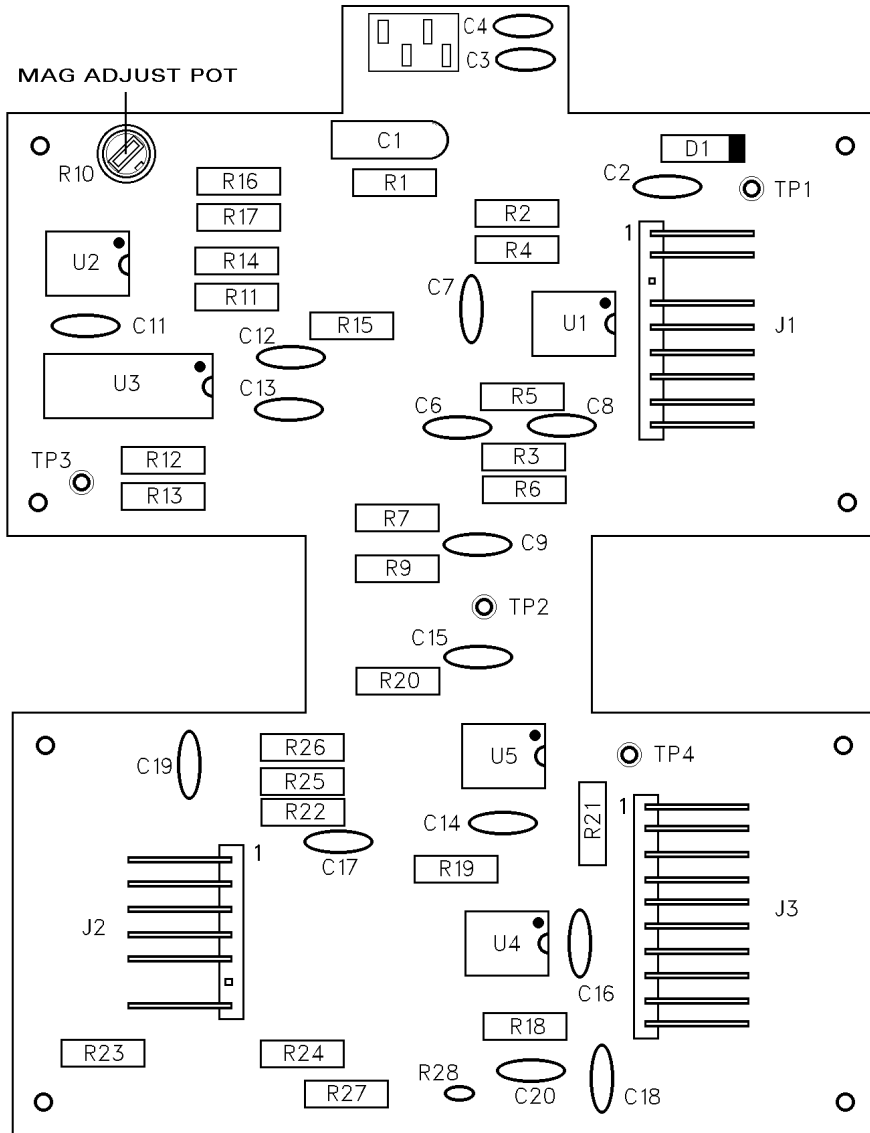

Figure 8-3
3. Adjust the MAG potentiometer R10 (Figure 8-3) fully clockwise. The Windows Hyper Terminal™ software should now print a string of "B"s indicating that the MAG head is detecting electrical noise.